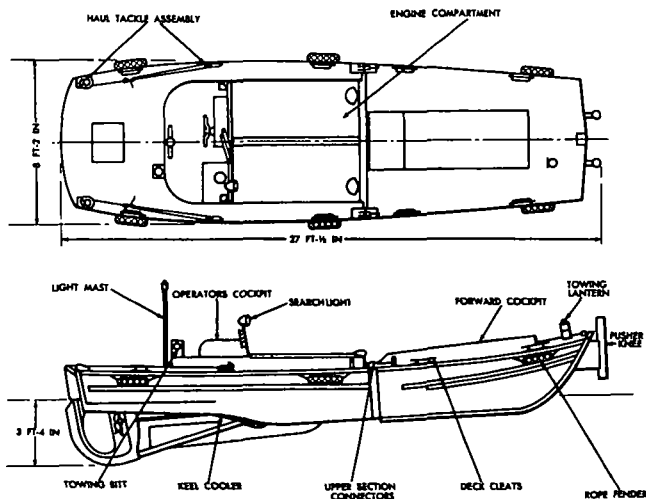

Figure 229. Design features, 27-foot bridge erection boat.
a. Use. The 27-foot bridge erection boat (fig. 229) or combinations thereof are capable of propelling the heaviest types of rafts assembled from